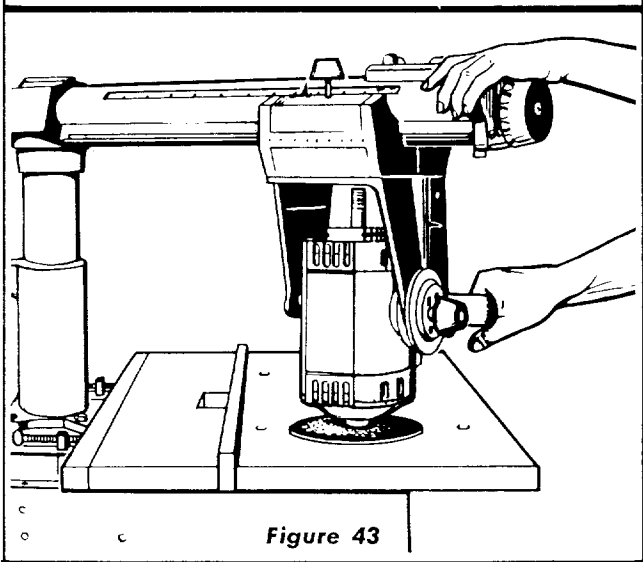

Figure 43
2. When sanding the table top or routing with the work stationary, the arm lock pin can be prevented from automatically indexing at 0° and 45° by loosening the arm latch handle to provide free movement of arm. (See figure 43.)